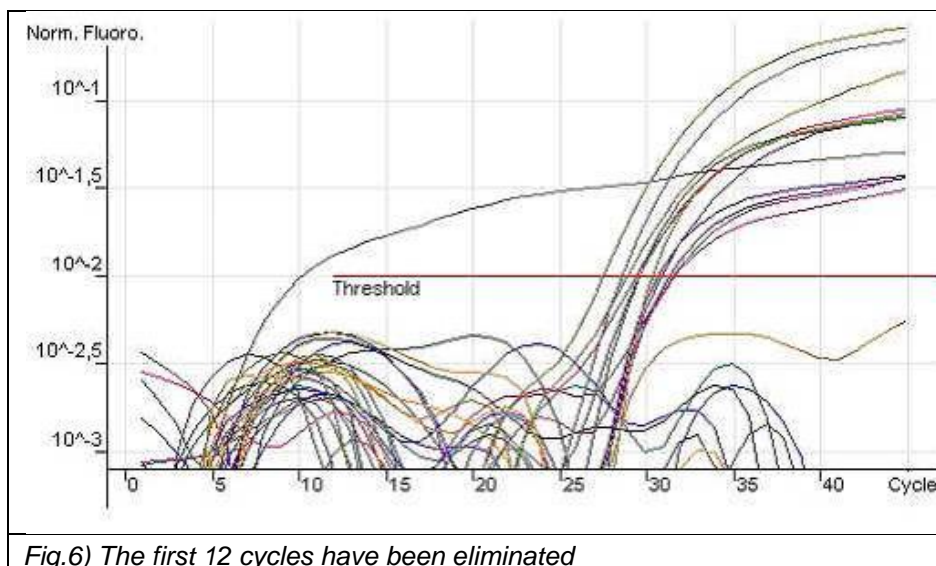

Fig.6) The first 12 cycles have been eliminated
- Enter the "Threshold" value 0.01 and, if necessary, eliminate the first 10-12 cycles: the intersection between the threshold line and the curve of the sample represents the cycle threshold (Ct) (fig. 6).